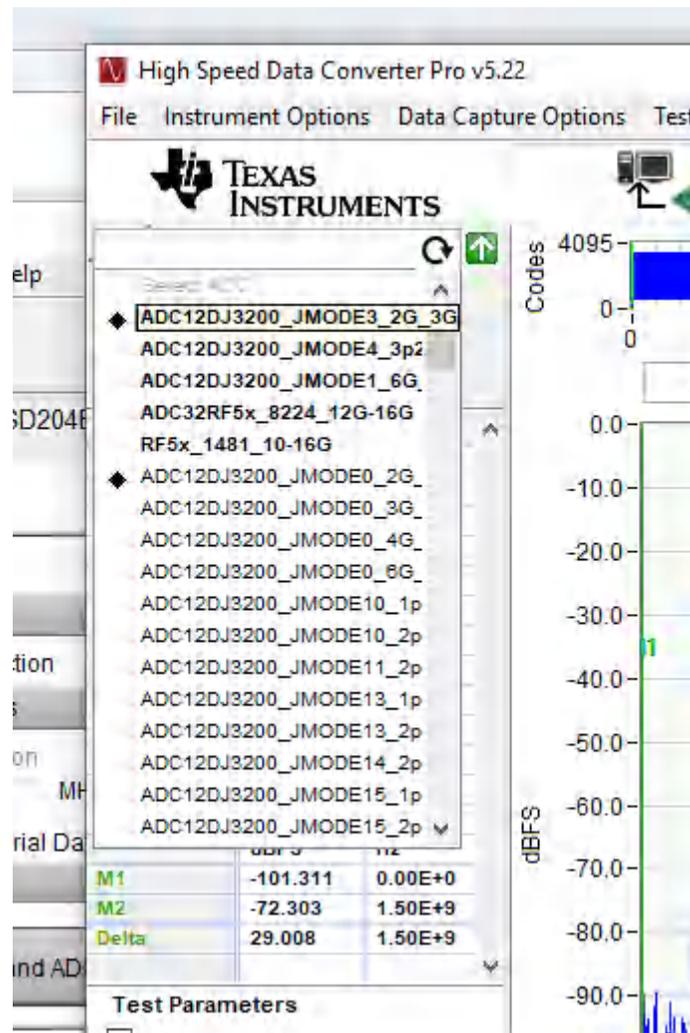

Figure 6-3. Select ADC12DJ3200_JMODE3_2G_3G in the HSDC Pro GUI Program
2. Start the HSDC Pro GUI program. When the program starts, first connect to the TSW14J58 EVM board and then select the device `ADC12DJ3200_JMODE3_2G_3G` under the the *Select ADC* drop-down menu, as seen in Figure 6-3.